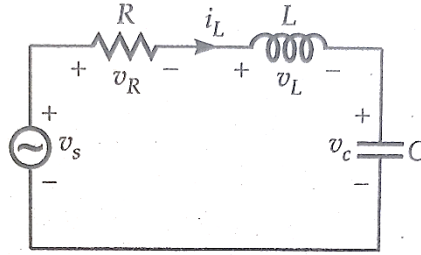

Figure 5
- (b) Derive the state model for the RLC circuit shown in Figure 5. Select i_L and v_c as state variables. **04**